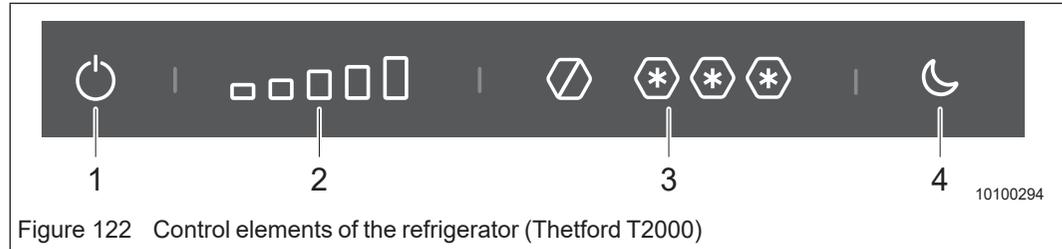

Figure 122 Control elements of the refrigerator (Thetford T2000)
➔ Press and hold the ON/OFF key (Figure 122/1) for several seconds.
- ➔ Unlock the control panel. Press and hold the refrigerator (Figure 122/2), freezer compartment (Figure 122/3) or night mode (Figure 122/4) areas for several seconds until the corresponding icon starts flashing.
- ➔ Tap on the temperature symbols (Figure 122/2 or 3) to set the desired cooling level. After a few seconds, the control panel will save the settings and switch to standby mode.